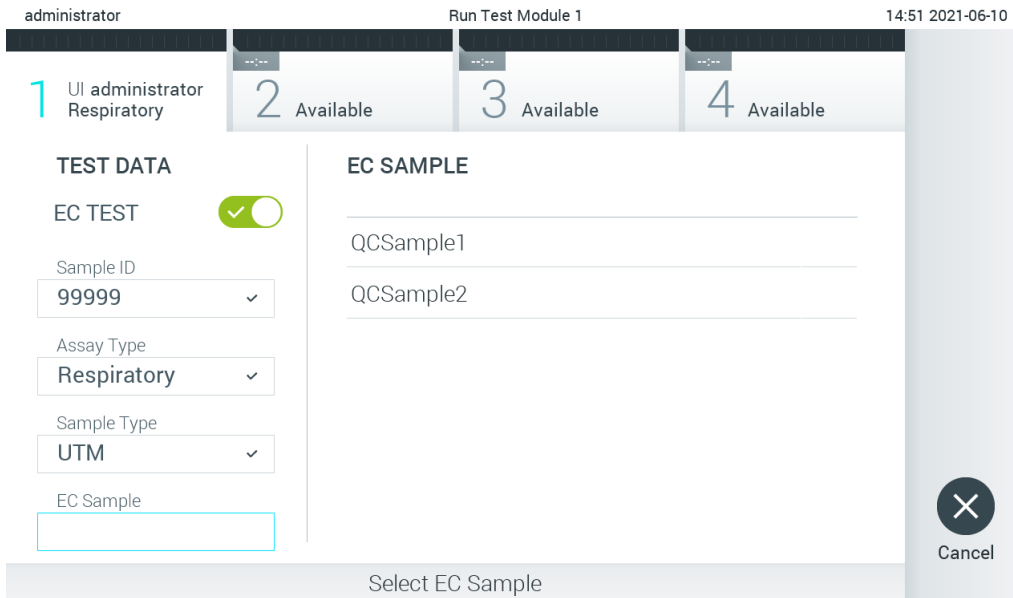

Figure 92. Selecting EC Sample.
- Select the appropriate EC sample from the list. Only EC samples for the selected assay type are shown (Figure 92). If no EC samples are configured for the selected assay, the list of EC samples will be empty, and it will not be possible to start an EC test run.